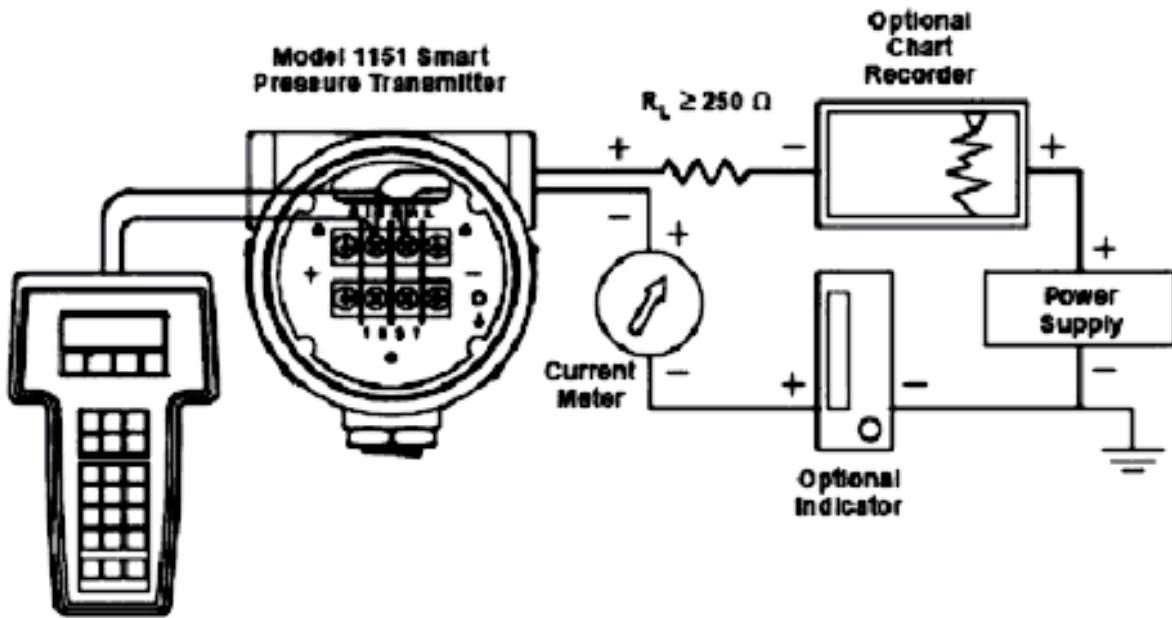

Figure 8 - Transmitter to Communicator Loop Connections
- Figure 8 – Transmitter to Communicator Loop Connections
The Pressure Transmitter outputs are connected by 2-wire 4-20, as shown in **Figure 8**. Digital output signal superimposed on 4-20 mA signal, available for HART Communicator or control system interface.